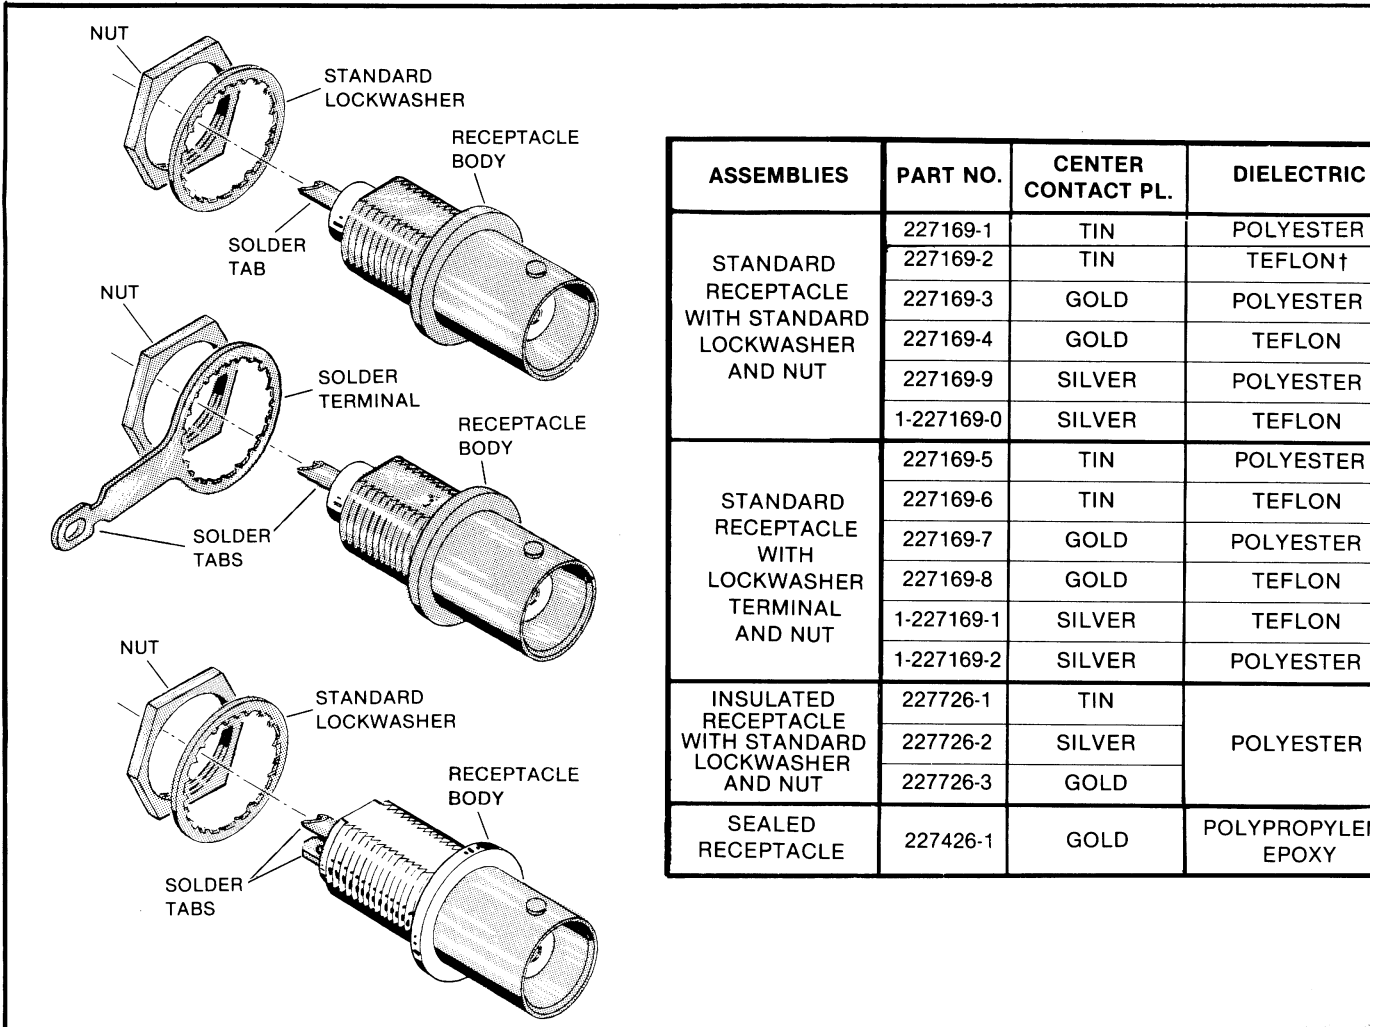

Figure 1
AMP★ Standard and Insulated Series BNC solder receptacle jacks are used in panel mount applications. They are available with the combinations of dielectric material and center contact platings shown in Figure 1.
1. SOLDER RECEPTACLE JACKS LISTED IN FIGURE 1.